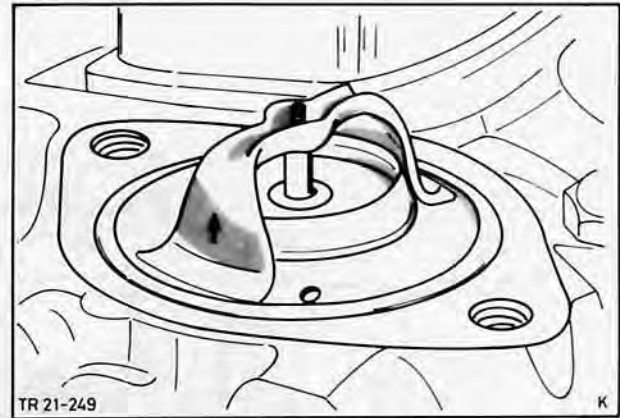

Fig. 69. Thermostat in position
65. Insert thermostat into cylinder head, Fig. 69. Place gasket in position and fit thermostat housing.